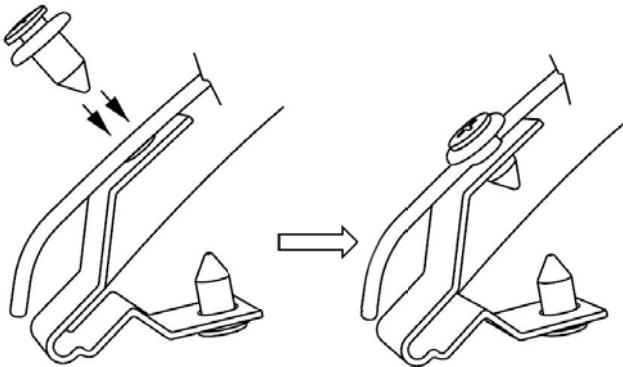

Fig 14
12. Place the hood deflector on the hardware mounted to the hood and align the (4) holes in the hood deflector with the holes in the metal mounting brackets. Insert a push type retainer through the hole in the hood deflector and into the bracket. (Fig 14)